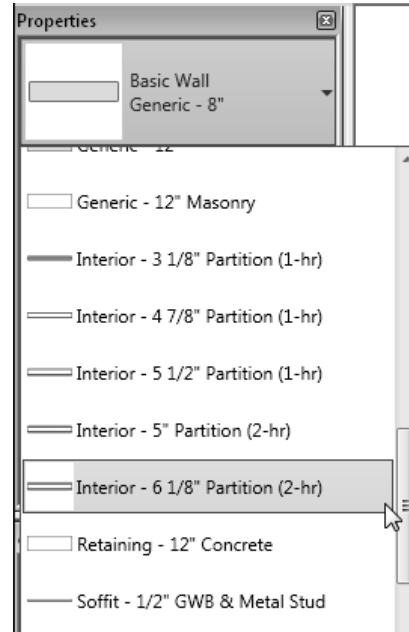

Figure 3-64 Selecting the interior wall type from the **Properties** Palette
- b. Invoke the **Wall** tool and select the **Interior - 6 1/8" Partition (2-hr)** wall type, refer to Figure 3-64.
1. Select **Interior - 6 1/8" Partition (2-hr)** from the **Type Selector** drop-down list in the **Properties** Palette, as shown in Figure 3-64.